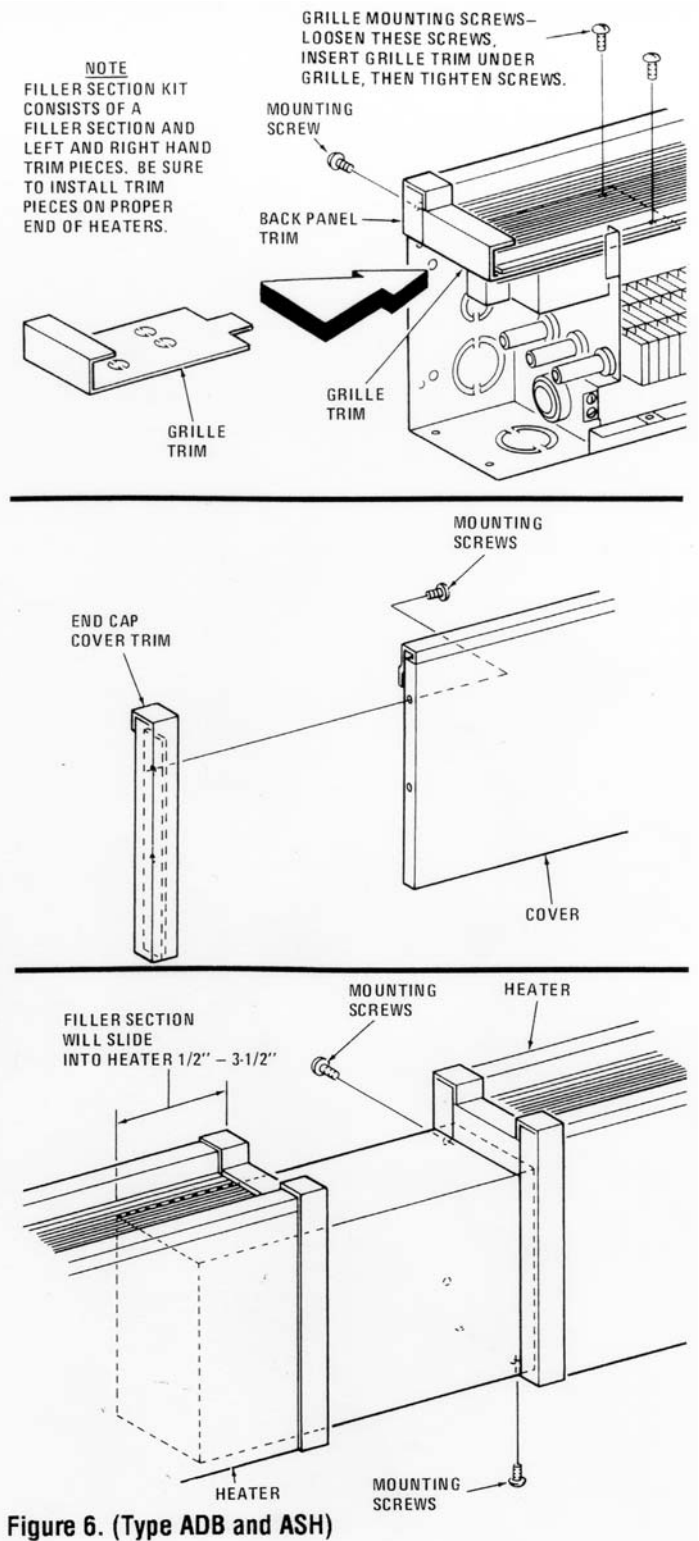

Figure 6. (Type ADB and ASH)
3. If required by plan, install filler section kit (1, Figure 1a) to either heater (2) or (3). Refer to Figure 6 for installation details. (Discard filler section kit end cap in this application).